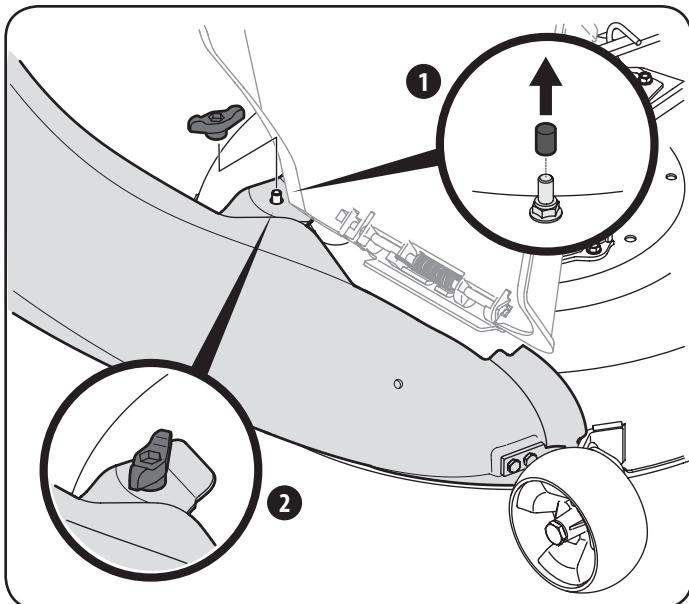

Figure 21
3. Secure the chute elbow to the deck using a wing knob (720-04122) from hardware pack 689-00312. See Figure 21.
Note: If present, remove the protective cap off of the mounting stud on the mowing deck as shown in the upper inset of Figure 21.